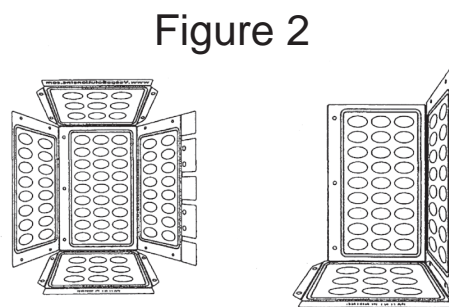

Figure 2
2. Fold up 2 adjacent panels and put the 2 male plastic posts from the one panel through the 2 round holes on the adjacent panel. (Figure 2)